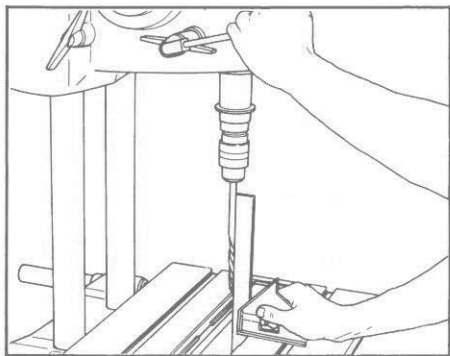

Figure 4. Checking the 90° left stops.
b. To check the **90° left stops**, set the Mark V in the vertical position and loosen the table tilt lock. Position the table to 90° and lock the tilt lock. Mount the drill chuck and a 1/2" brad-point bit on the main spindle. Position the bit above the table opening. Use the quill feed to extend the bit 1/2" into the table opening. Set a combination square against the bit. The square should contact the bit along its entire length. (See Figure 4.) Also, both stop bolts must contact their support tubes. If they don't, adjust the stops.